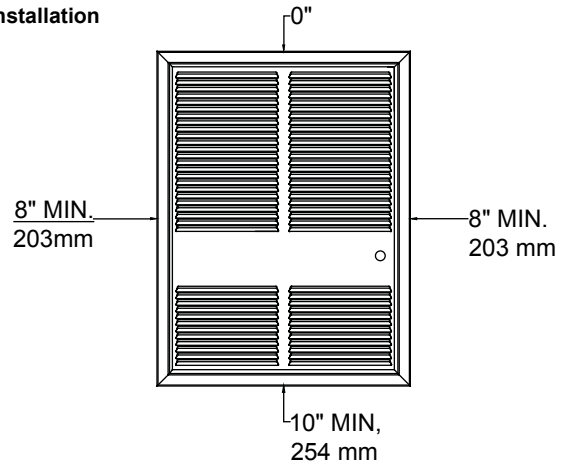

FIG. 1 FLUSH MOUNT
- Disassemble heater by removing 7 screws "C" as shown in Figure 1 and 2.
- Flush mounting, see Fig. 1.